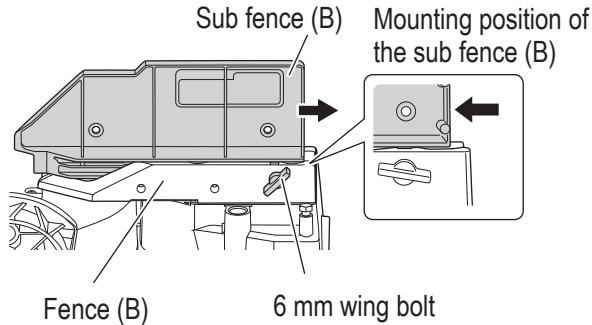

Fig. 13
When changing the bevel angle to the left 45°, loosen the 6 mm wing bolt shown in **Fig. 13 on page 64**, then slide the sub fence (B) outward and incline the motor head to the left.
### 3. Confirmation for use of sub fence (B) (Fig. 13)
In the case of direct angle cutting and right bevel angle cutting, slide inward to the position where the sub fence (B) hits, and secure it with 6 mm wing bolt. (as shown in Fig. 13)